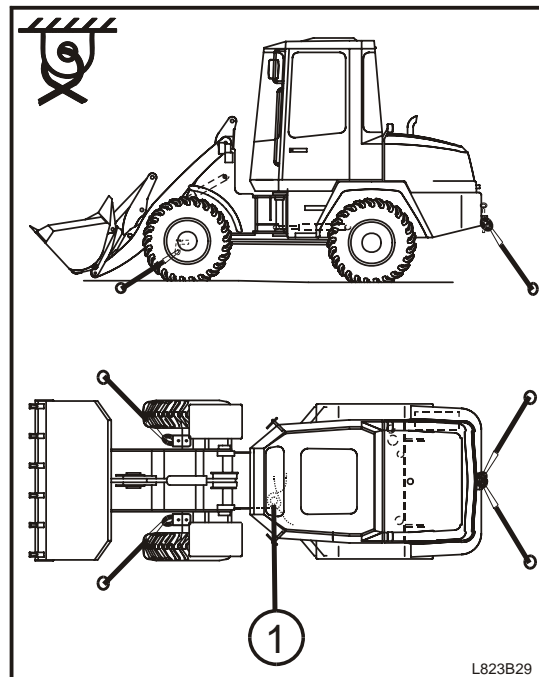

Fig. 29
- Attach the machine at the points illustrated (Fig. 29) in the correct manner.